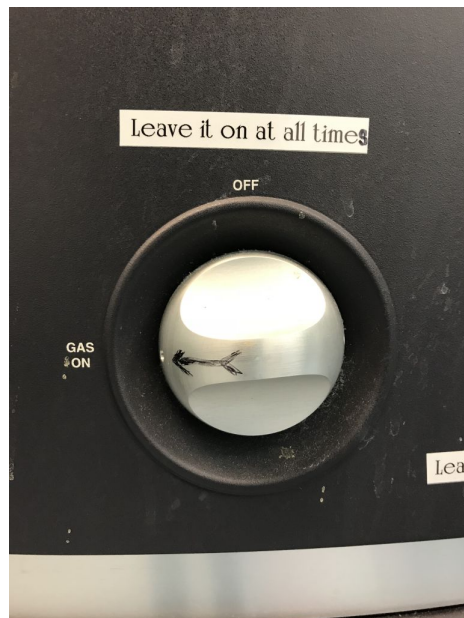

Figure 3: Always leave the Ivis gas switch set to ON
3. Gas exchange knob should always be on. See Figure:3